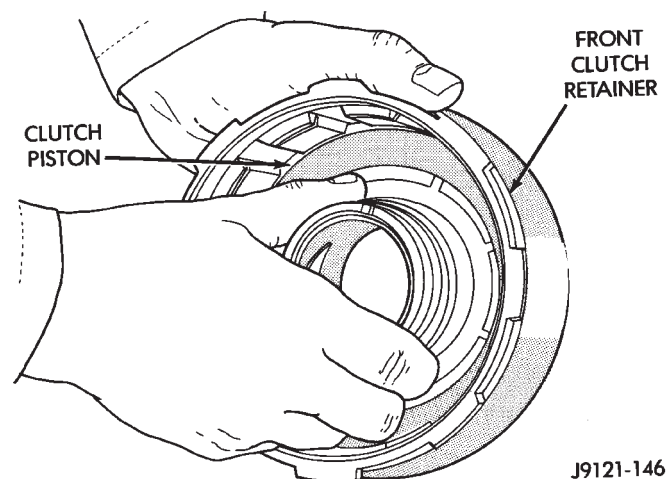

Fig. 151 Front Clutch Piston Installation
(4) Install clutch piston in retainer (Fig. 151). Use twisting motion to seat piston in bottom of retainer.